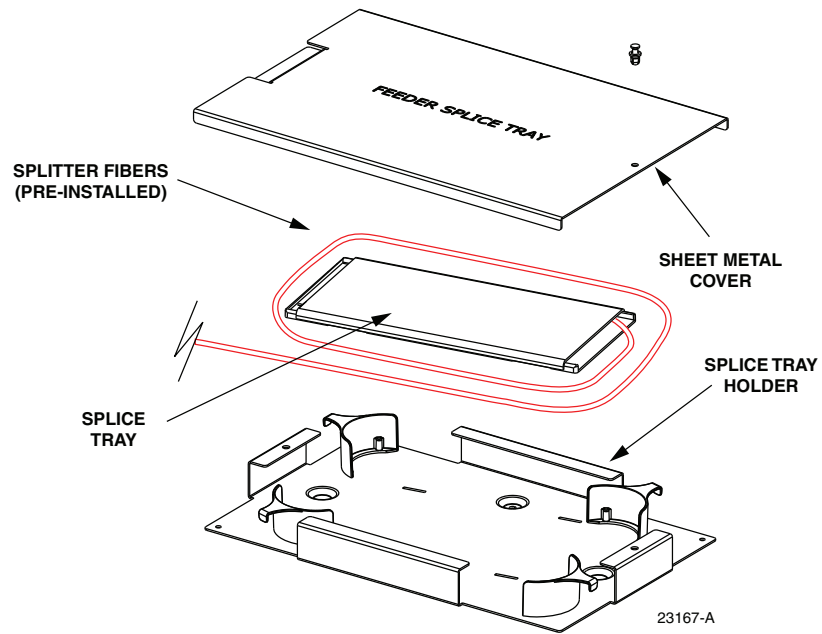

Figure 22. Feeder Slice Tray Assembly
2. Lift the sheet metal cover away from the splice tray holder as shown in Figure 22.
2. Lift the sheet metal cover (See Figure 22) away from the splice tray holder.